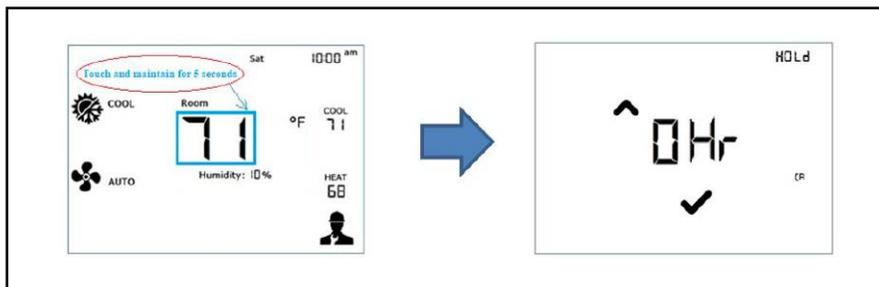

Figure 3-33 - Setting the Hold Function
2. Use the arrows **UP** and **DOWN** to set the time of **HOLD** (Figure 3-33).